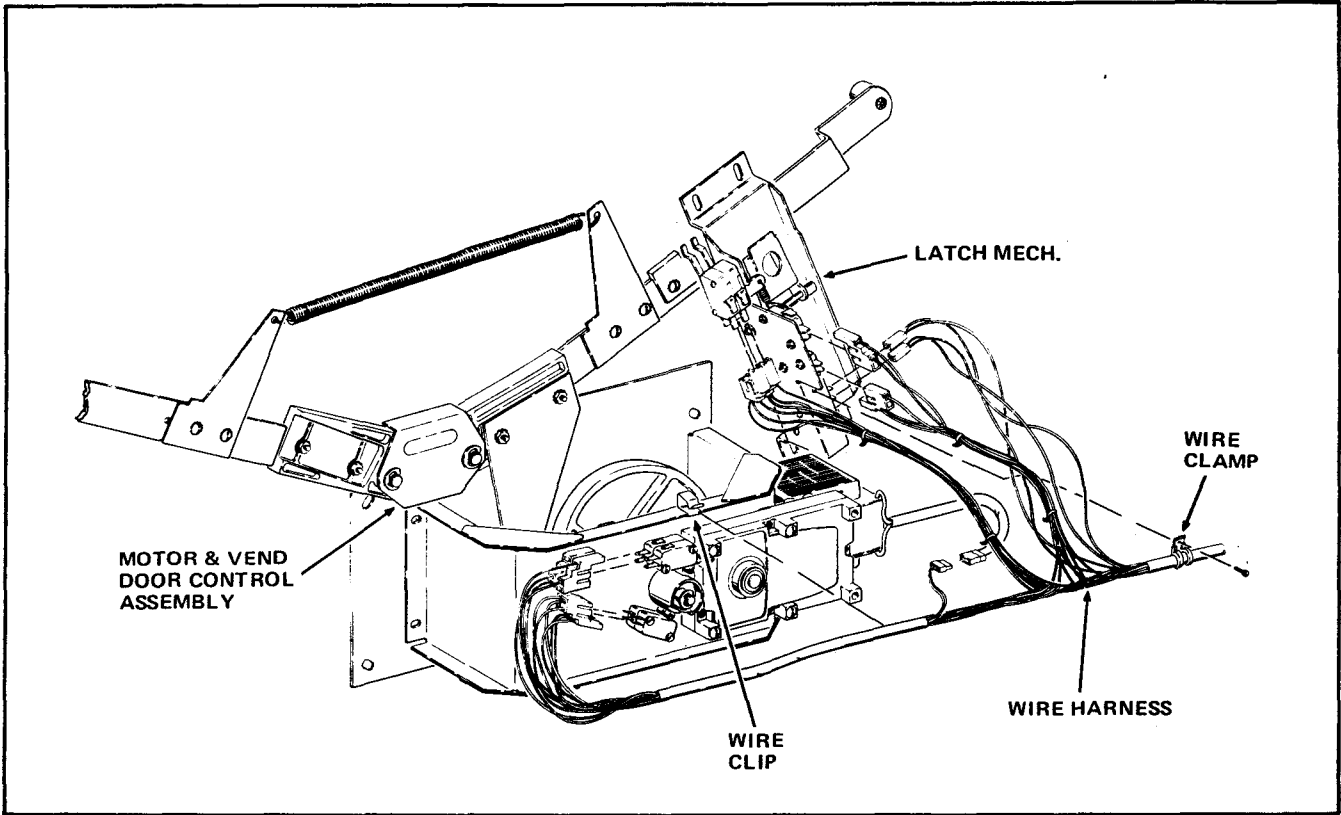

FIGURE 2
5. Disconnect the Delivery Door Harness from the four Delivery Door Switches and the Motor on the Motor and Vend Door Control Assembly. See Figure 2.
6. Disconnect the Delivery Door Harness from the four Delivery Door Switches and the Door Lock Solenoid on the Latch Mechanism Assembly. See Figure 2.
8. Remove one attaching Screw, one Wire Clamp and the Delivery Door Harness from the Merchandiser, pulling the Harness out of the Wire Clip on the Motor and Vend Door Control Assembly. See Figure 2.
9. Remove the Wire Clamp from the Delivery Door Harness. Be sure to retain both the Wire Clamp and its attaching Screw. See Figure 2.
3. Place the Wire Clamp, removed in Step A-9, around the Delivery Door Harness, part number 424-2272, included in the Kit, as shown in Figure 2.
4. Attach the Wire Clamp and Delivery Door Harness to the Latch Mechanism Assembly with the Screw removed in Step A-8 and push the Harness into the Wire Clip on the Motor and Vend Door Control Assembly. See Figure 2.
5. Disconnect the Delivery Door Harness from the Delivery Door Switches and the Motor on the Motor and Vend Door Control Assembly. See Figure 2.
1. Place the Wire Clamp, removed in Step A-9, around the Delivery Door Harness, part number 424-2272, included in the Kit as shown in Figure 2.
2. Attach the Wire Clamp and Delivery Door Harness to the Latch Mechanism Assembly with the Screw removed in Step A-8 and push the Harness into the Wire Clip on the Motor and Vend Door Control Assembly. See Figure 2.